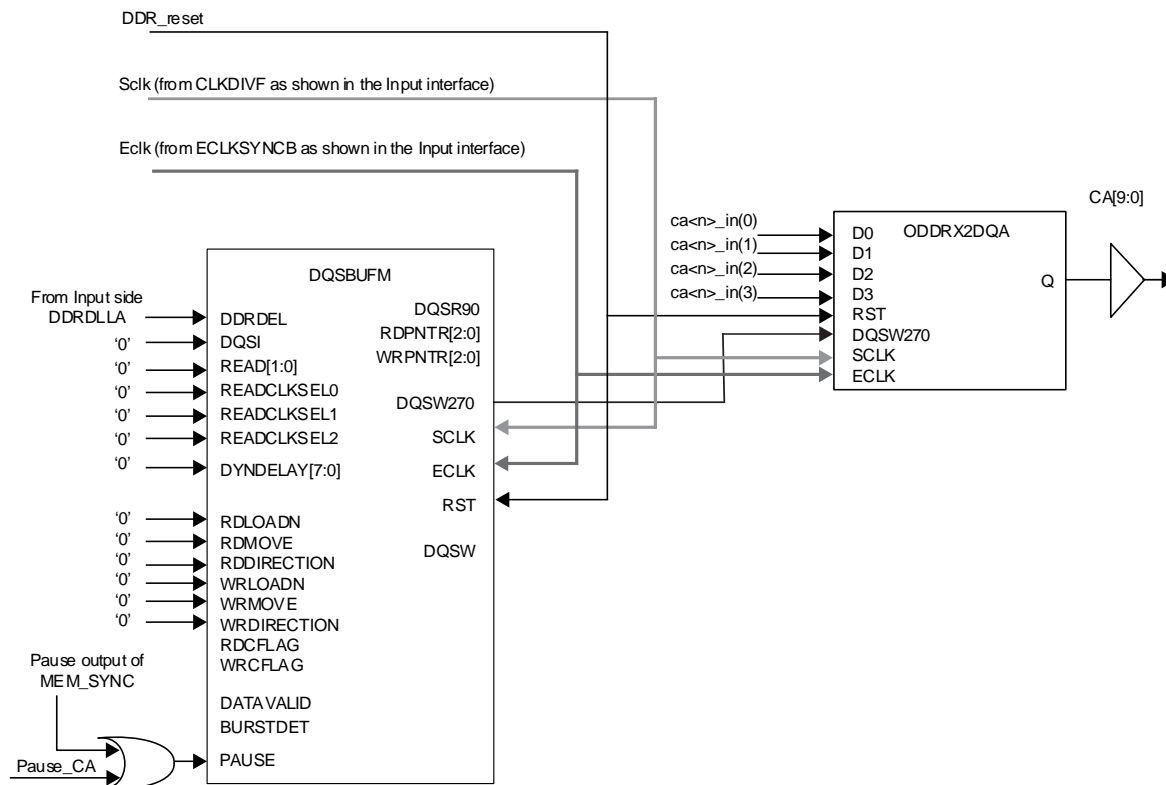
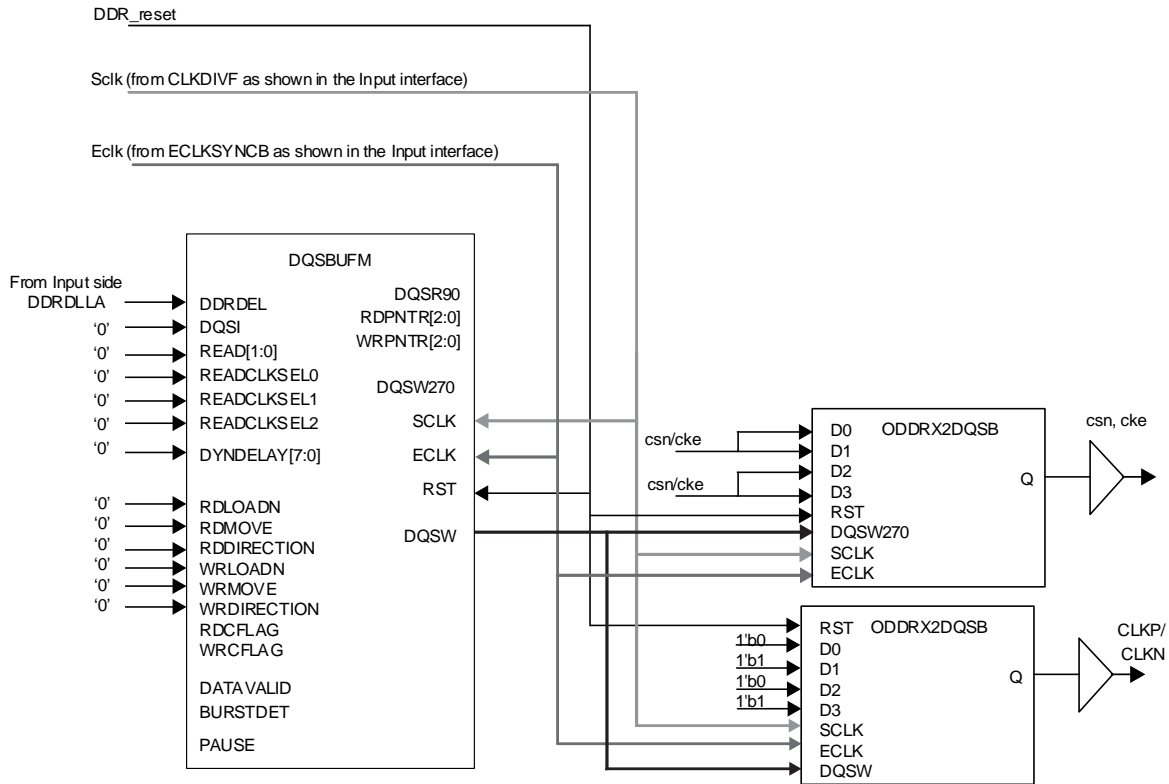
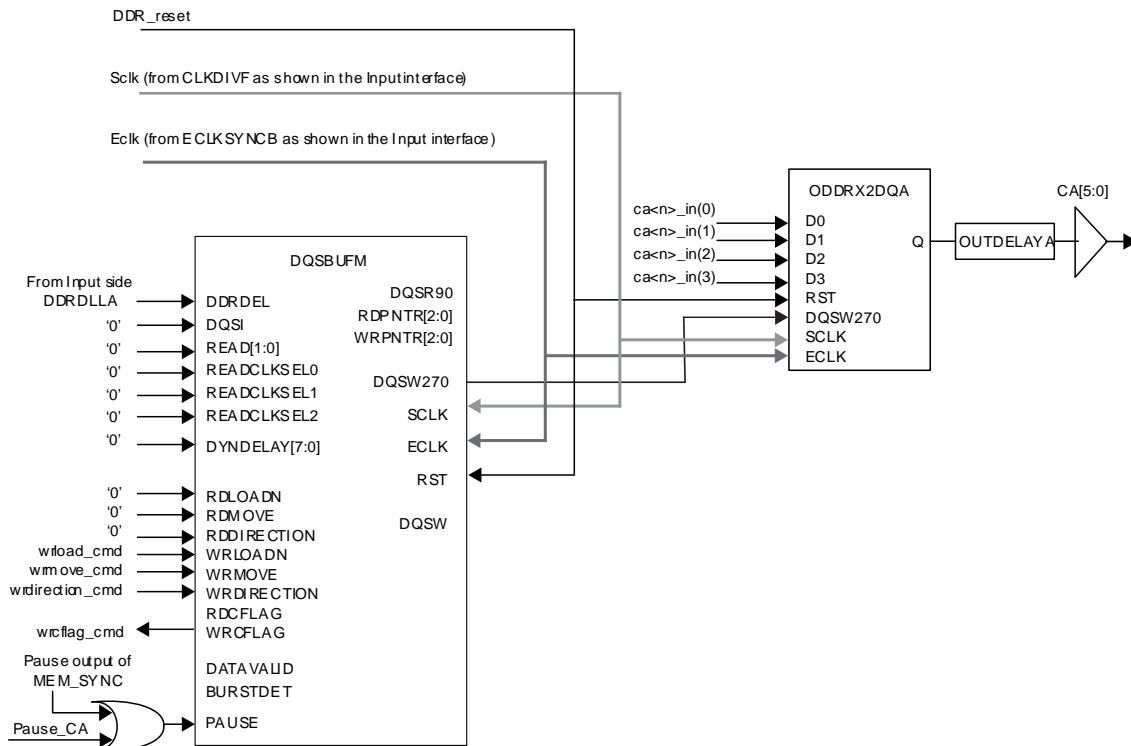
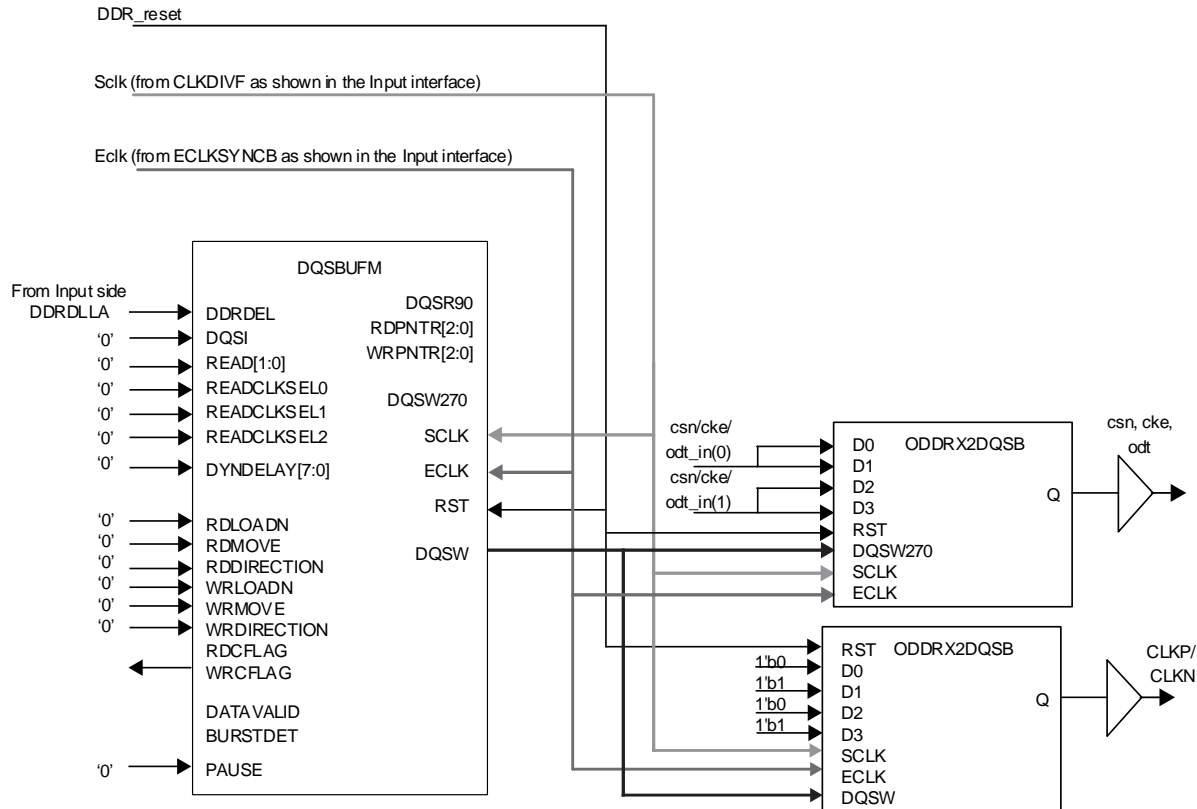

Figure 6.13. LPDDR2 Output for CA Generation
Figure 6.14. LPDDR2 Output for CSN, CKE, and CLOCK Generation
Figure 6.15 LPDDR4 Output Side for CA Generation
Figure 6.16. LPDDR4 Output Side for CSN, CKE, ODT, and CLOCK Generation
- ODDRX2DQA module to generate the CA[9:0](LPDDR2)/CA[5:0](LPDDR4) outputs (Figure 6.13, Figure 6.15, and Figure 6.16).
- ODDRX2DQSB with D0 and D1 tied together and D2 and D3 tied together to generate CSN, CKE signals (Figure 6.14 and Figure 6.16).